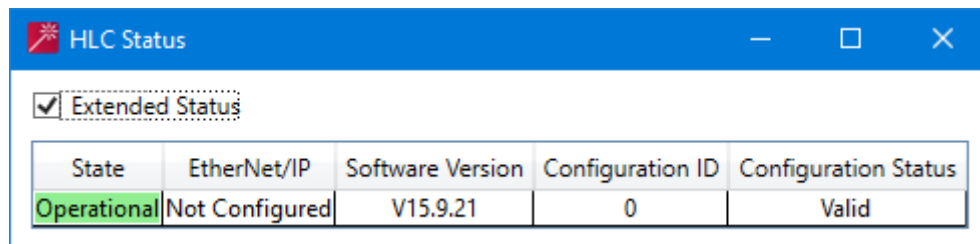

Figure 2-21: HLC Status Window Showing Extended Status
3. Select the **Extended Status** checkbox at the top of the window to view the software version and configuration information, see Figure 2-21.